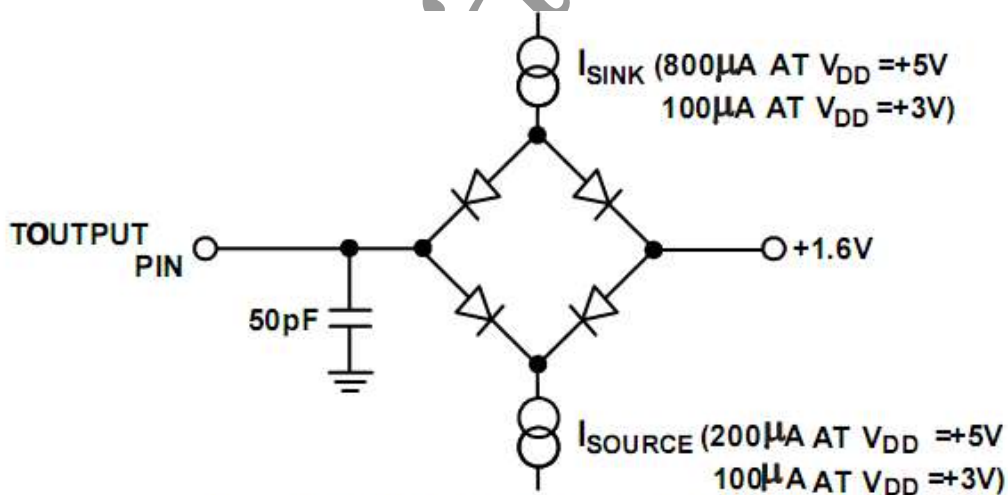

图1 访问时间和总线撤回时间的负载电路图
- These numbers are in the figure 1 Measured under the load circuit. They are defined as output through V_{OL} or V_{OH}
- The value is in the data output as 0.5V Measured at the time (the load situation is shown in the figure 1 Shown) Then the measured value is pushed Play back to eliminate 50pF The effect of capacitor charging or discharging. This means that all mentioned in the timing parameter table The time values are the real bus withdrawal time (relinquish time), and therefore there is no connection with the external bus load capacitance turn off.